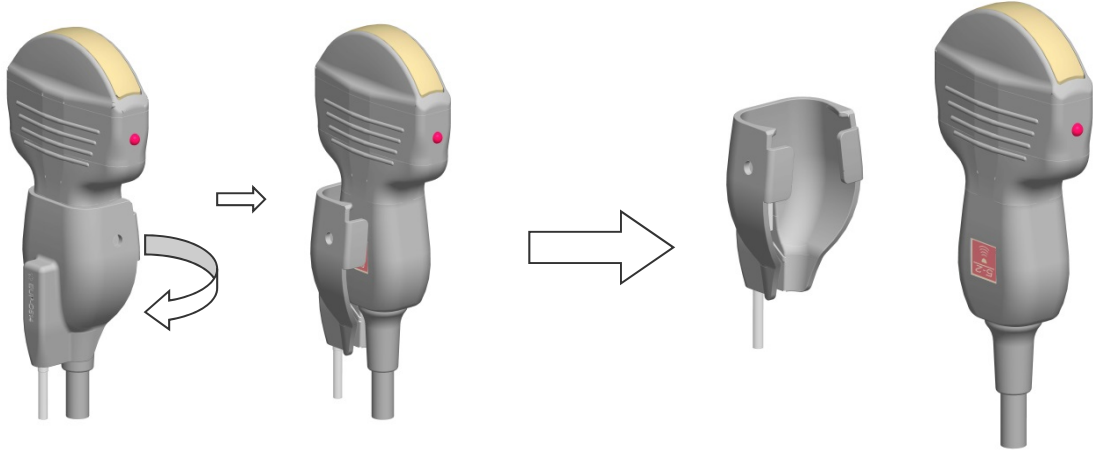

Fig. 11 How to release the Magnetic sensor attachment
- 1) Turn around the Magnetic sensor attachment and release it from probe as shown in Fig. 11.